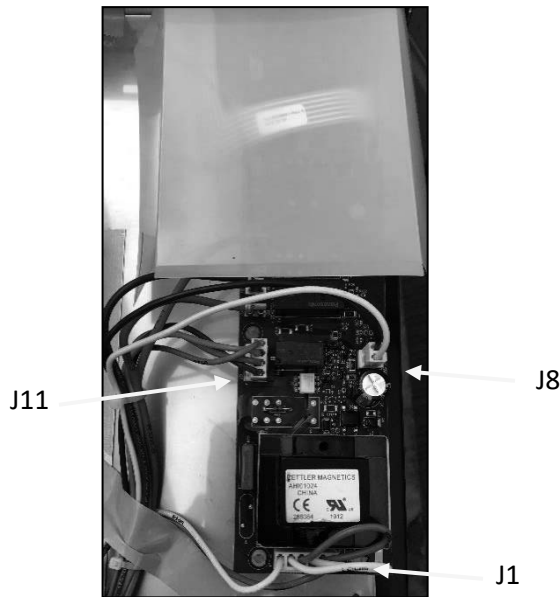

Figure 1
2. Disconnect J1 and the Touch Panel Membrane Connectors from the Control Board – **leave the small Display Connector installed otherwise it may be damaged. See Figure 1.**